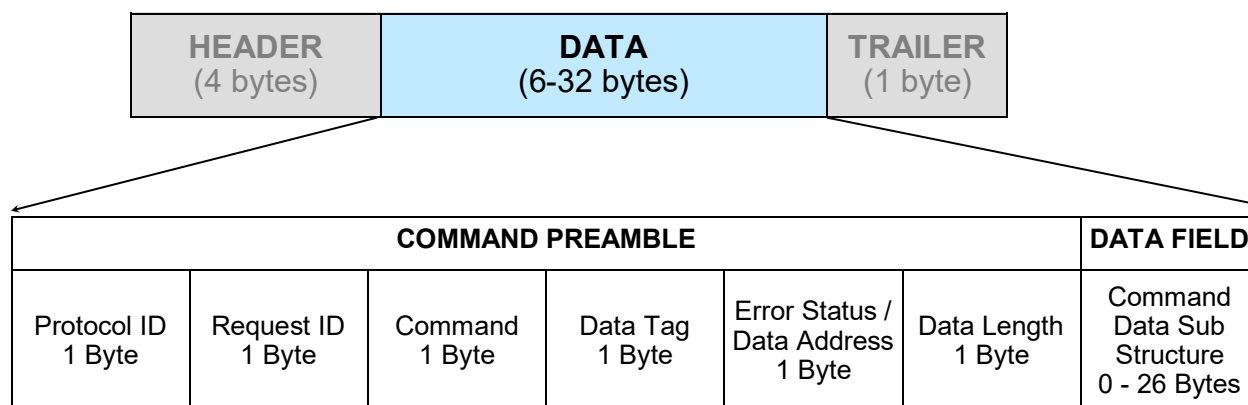

Figure 5-6: Data Sub-Packet
The trailer component contains only one (1) byte called the Frame Check Sequence, shown in **Figure 5-6**.